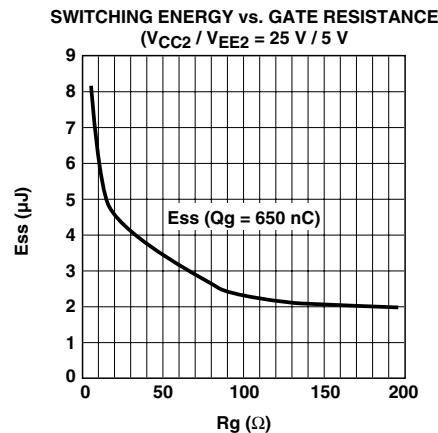

Figure 77. Switching energy plot for calculating average P_{switch} (for HCPL-316J output driving an IGBT rated at 600 V/100 A).
2. Calculate total power dissipation in the part referring to Figure 77. (Average switching energy supplied to HCPL-316J per cycle vs. R_G plot);
For $R_G = 10.5$, the value read from Figure 77 is $E_{SWITCH} = 6.05 \mu\text{J}$. Assume a worst-case average $I_{CC1} = 16.5 \text{ mA}$ (which is given by the average of I_{CC1H} and I_{CC1L}). Similarly the average $I_{CC2} = 5.5 \text{ mA}$.
$P_i = 90.8 \text{ mW}$, $P_o = 314 \text{ mW}$, $T_A = 100^\circ\text{C}$, and assuming the thermal model shown in Figure 77 below.